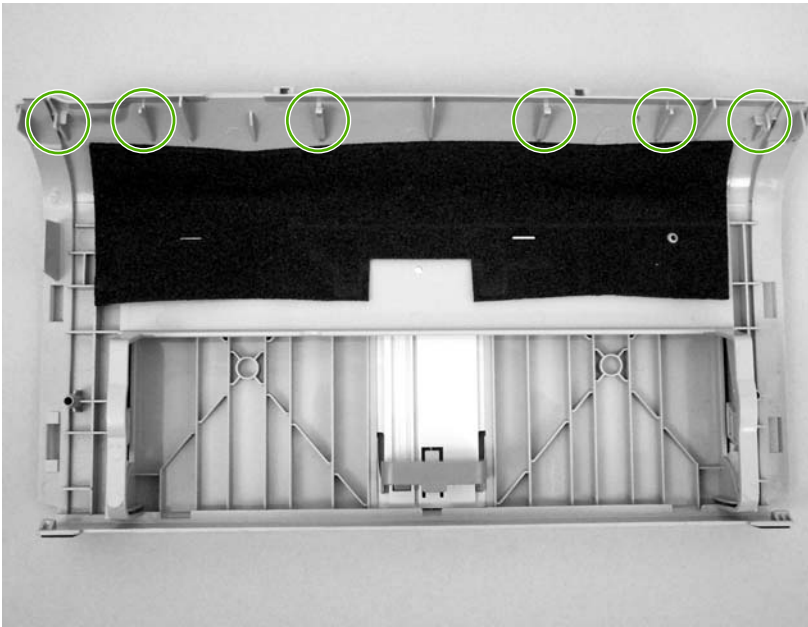

Figure 5-18 Remove the front cover (1 of 3)
- 2 Before removing the cover, examine Figure 5-18 Remove the front cover \(1 of 3\) on page 82 and note the locations of the plastic tabs at the top of the front cover. Open the print-cartridge door.